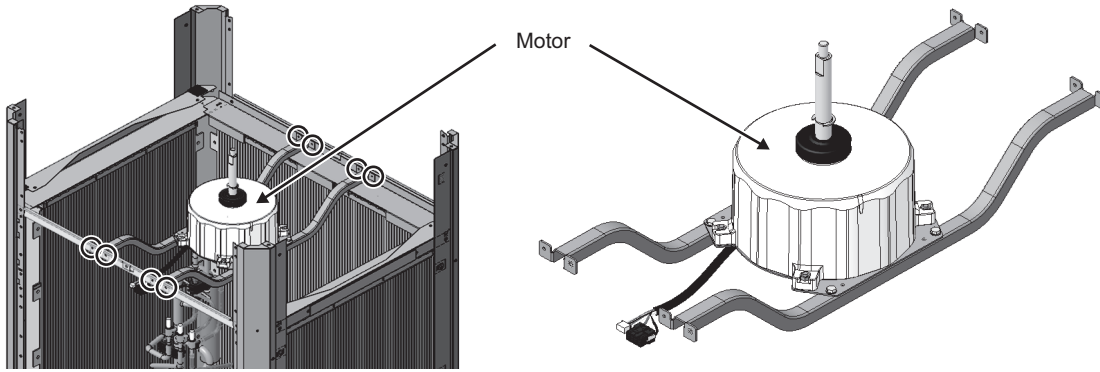

Fig. 32
(9) Remove the motor. (Eight screws: Fig. 32)